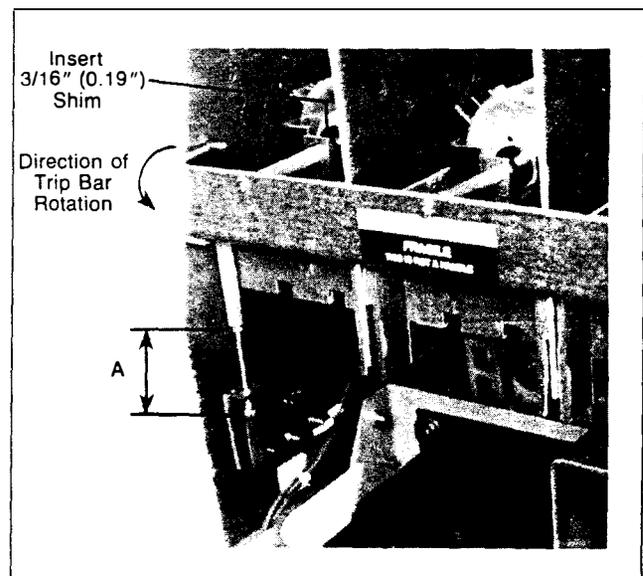

Figure 12. Operational Check of Trip Mechanism
5. Referring to **Figure 12**, insert a $3/16"$ (4.8mm) thick shim between one of the three plungers and the adjacent fuse, rotating the trip bar in the direction shown. The micro-switch contacts should open at this point. If they do not, loosen the locknut and adjust the machine screw to shorten dimension "A" slightly until the switch contacts open, then retighten the locknut.